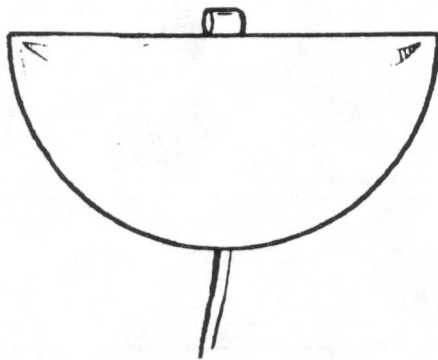
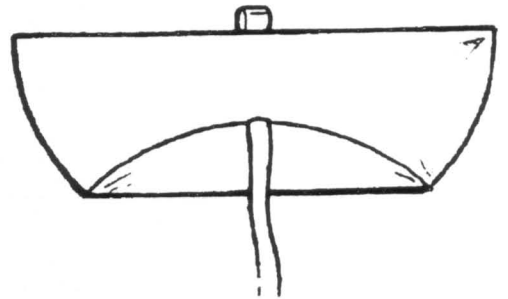

FIG. 13
FIG. 14
16) Lay the pilot chute out flat with the mesh side up. Fold the excess bridle on top of the layed out parachute, and fold the pilot chute in half over the bridle (FIG. 13). Now fold the curved side up about 4" (FIG. 14).